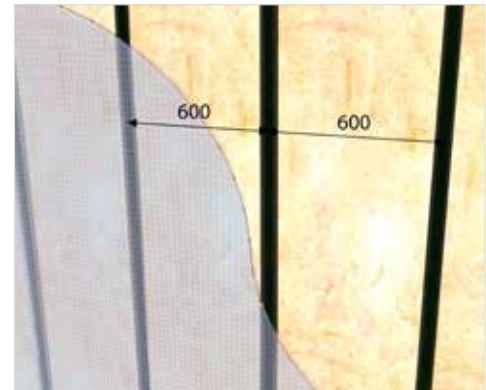

Fig. 1: Temporary fixing with Probond Tape
1. Apply single runs of Probond Tape at equal centres (max. 600mm) to substrate/studs/fixing rails to provide a temporary fixing point (Fig.1).